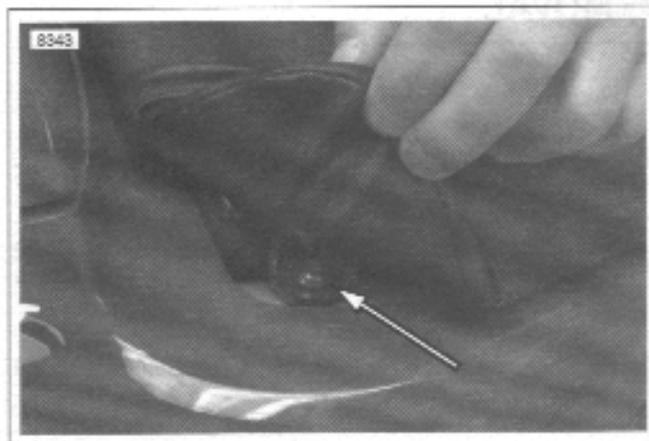

Figure 2-114. Accessing Rider Seat Screws
1. See Figure 2-114. Peel up rear corners of seat and remove two fasteners.